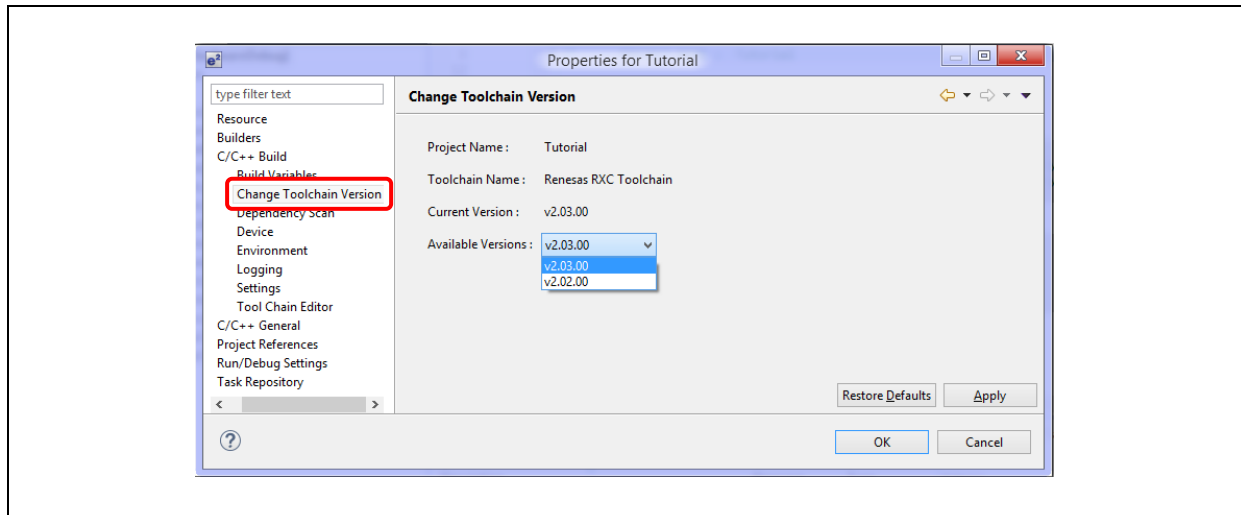

Figure 4-2 Change Toolchain Version
- (1) Click [C/C++ Build] → [Change Toolchain Version] to view or change toolchain version. Refer to figure 4-2, the current version is v2.03.00 and click the “Available Versions” option to change toolchain version (if additional toolchain is installed).